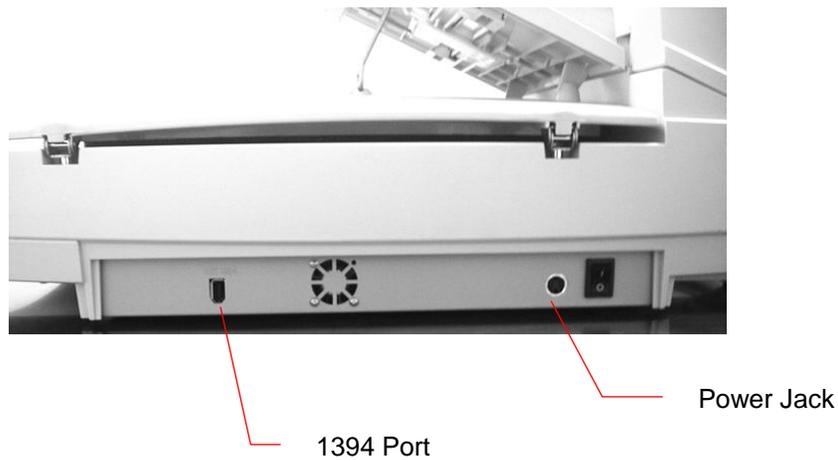

Figure 2.4 Cable connection
3. Connect the female plug of the power cable to the scanner connector, and press it firmly into place. (See Figure 2.4)